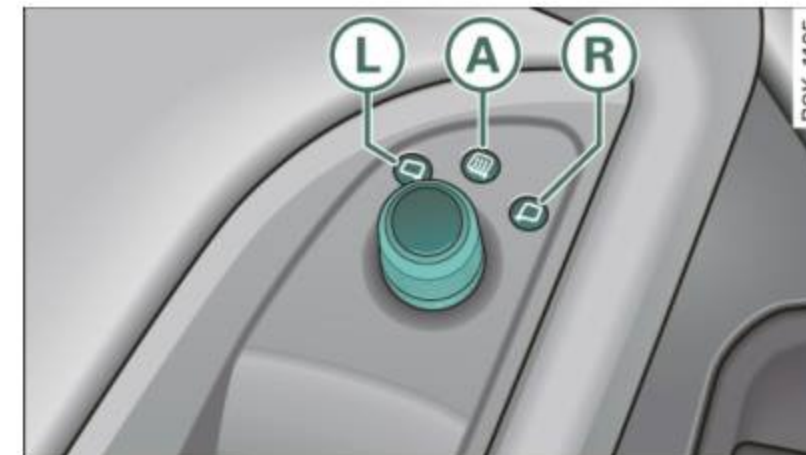

Fig. 65 Forward section of driver's armrest: power mirror controls
- Rotate the knob to the **L** position (driver's exterior mirror) or to the **R** position (passenger's exterior mirror) ⇒ fig. 65.
When the reverse gear is engaged, the mirror surface tilts downward slightly if the setting is for the passenger's mirror (knob in position **(R)** ⇒ *page 69*, fig. 65). This allows you to see the curb during parallel parking.